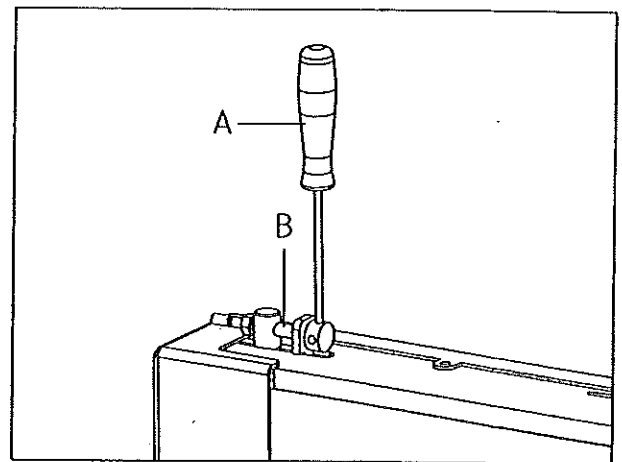

Fig.10
3. Insert driver wrench (A. Fig. 10) supplied with the machine into belt tracking adjusting knob (B. Fig. 10) and turn front to back or back to front until belt tracks evenly on the rollers when rotated by hand.